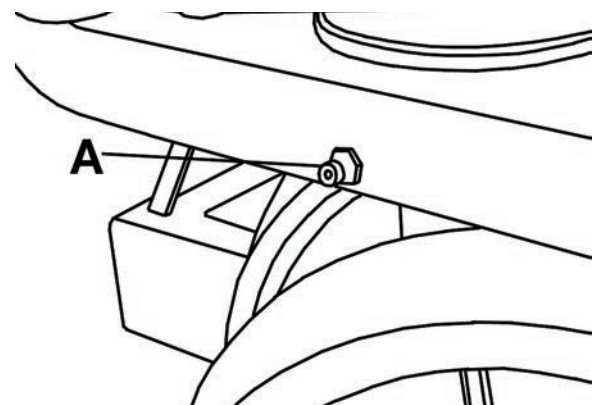

FIGURE 3
There are several oil points located on the pallet truck, one of them is shown (A) Fig.3. Grease the oil points on a semi-annual basis. Lightly oil all moving parts using motor oil or grease.